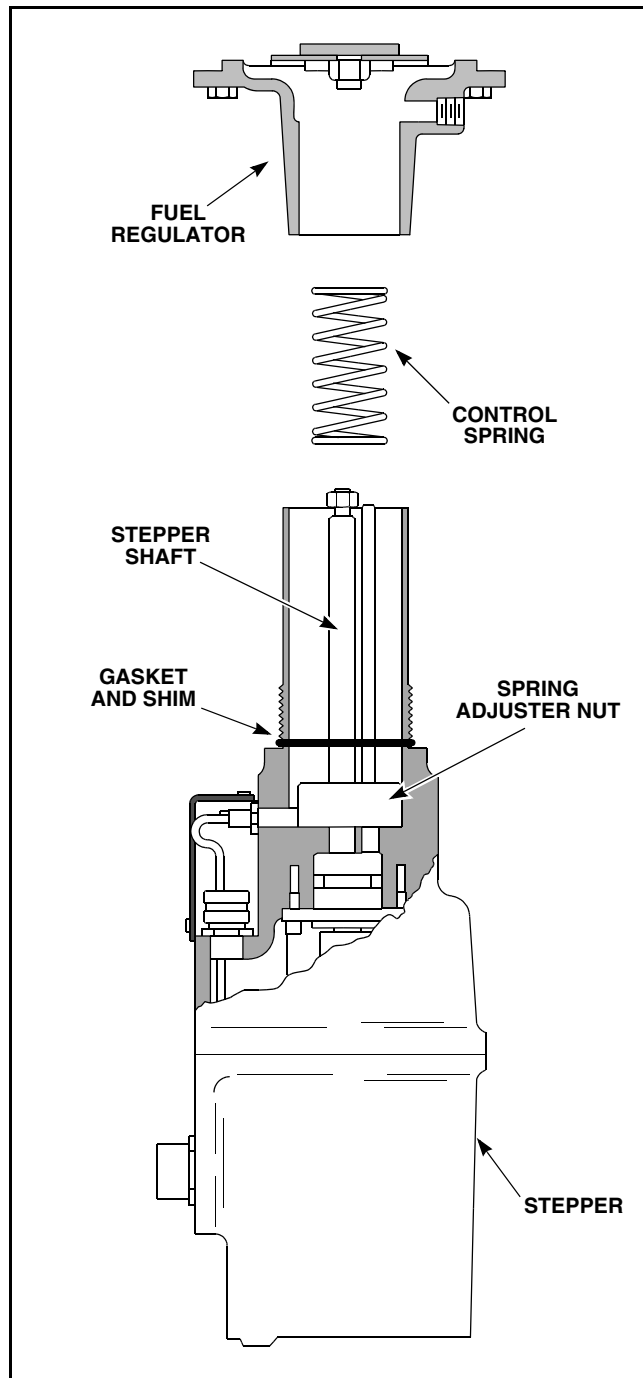
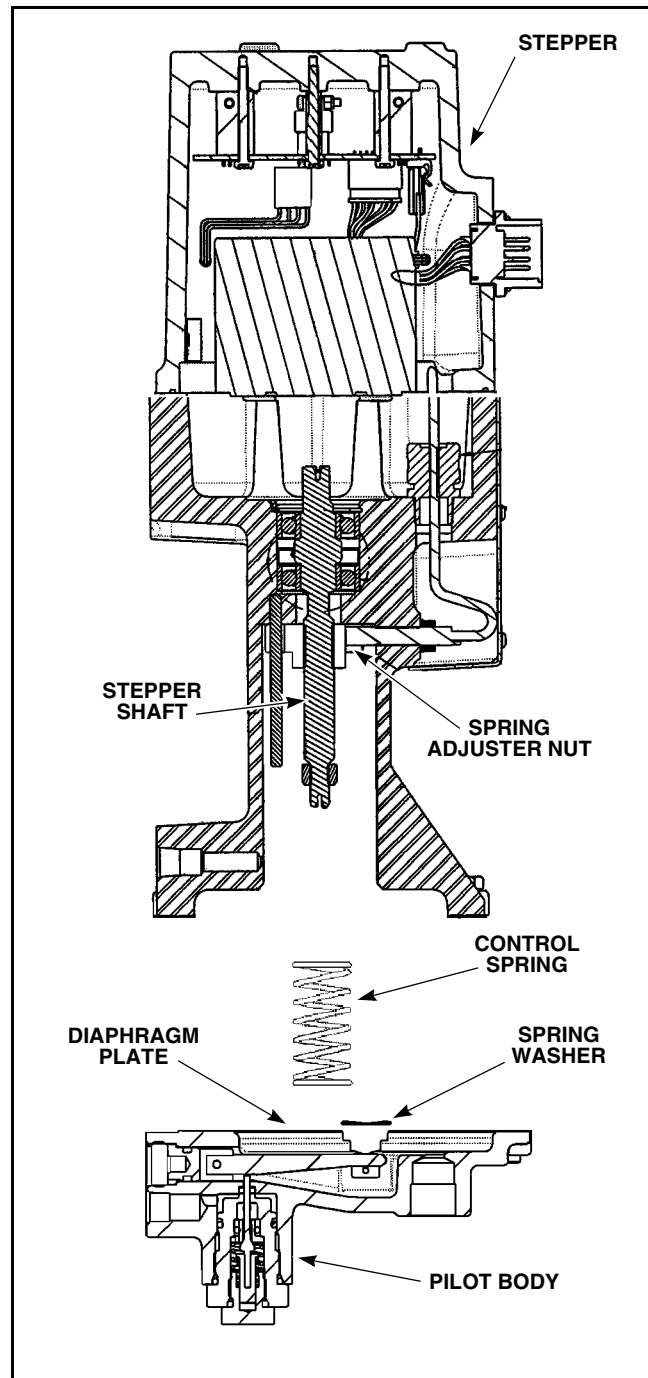

Figure 4.05-15 AFR Stepper (Fisher 99 Regulator)
Figure 4.05-16 AFR Stepper (Mooney Regulator)
Every year the stepper(s) must be inspected, cleaned, and lubricated. To perform yearly maintenance to the stepper(s), refer to Figure 4.05-15 and Figure 4.05-16 and complete the following:
8. Fisher 99 Regulator – verify gasket and shim on stepper are installed (see Figure 4.05-15).
11. Mooney Regulator – apply Lubriplate No. 105™ or petroleum grease to spring washer. Washer prevents control spring from “binding” on diaphragm assembly when compressed (see Figure 4.05-16).